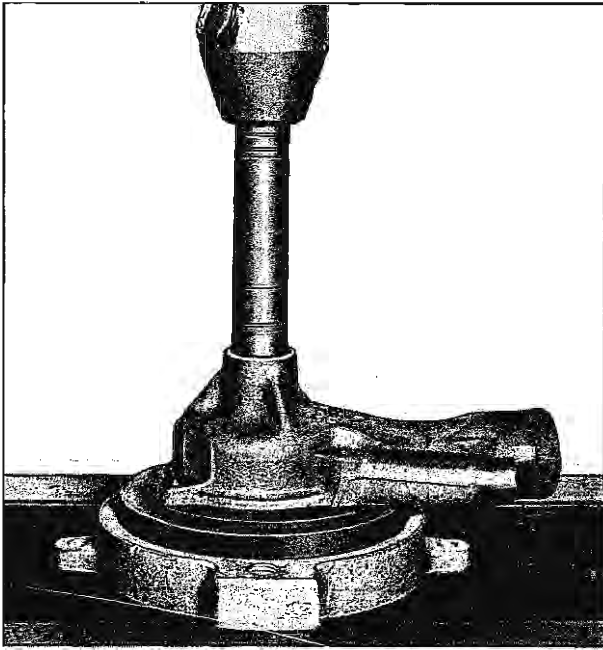

Fig. 6A-23 Pressing Pump Shaft and Bearing into Pump Body Bearing Bore
2. Lightly coat O.D. of new seal with a sealing compound, mount in J-7818 and press into place with 1-1/2" socket or other suitable tool (Fig. 6A-24).